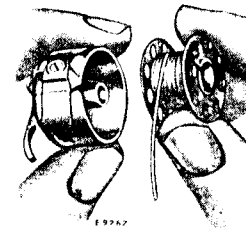
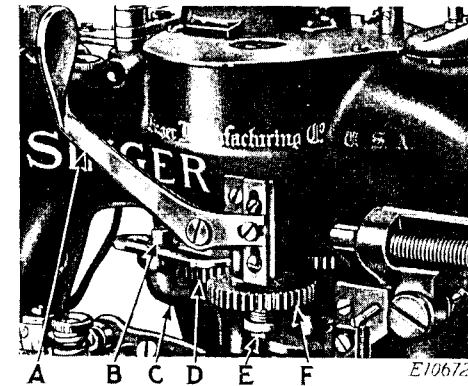
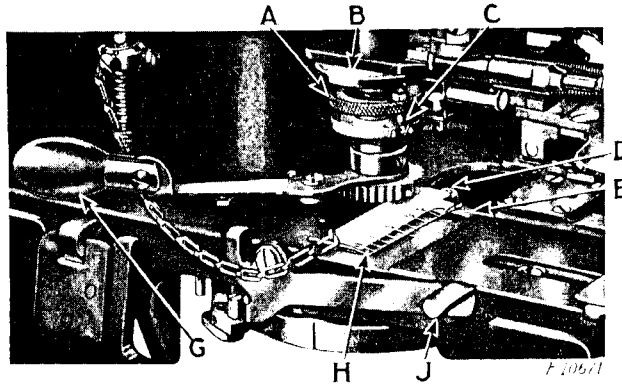

Fig. 12
Fig. 18. Mechanism for Disengaging Stitch Regulating Gear
Fig. 19. Adjustments for Regulating Length of Buttonhole Also Showing Hand Ratchet Lever (G) and Stop Lever (J)
Hold the bobbin between the thumb and forefinger of the right hand, the thread drawing on the bottom from the left toward the right (See Fig. 12).
With the left hand hold the bobbin case as shown in Fig. 12, the slot in the edge being near the top, and place the bobbin into it.
Press down the forward end of the stop lever (J, Fig. 19) and the machine will immediately stop with the needle at its highest point. Then with the right hand push the stitch gear disengaging lever (A, Fig. 18) backward to disengage the stitch regulating gear (F, Fig. 18) and while holding the lever (A) backward, operate the hand ratchet lever (G, Fig. 19) with the left hand until the work clamps are moved to the desired position.
To reengage the stitch regulating gear (F), release the disengaging lever (A, Fig. 18) and operate the machine slowly by means of the hand ratchet lever (G, Fig. 19) until the slot in the stitch regulating gear engages the driving pin in the shaft.
CAUTION: Under no circumstances should the machine be hand ratcheted unless the stitch regulating gear (F, Fig. 18) is disengaged. When changing the stitch regulating gear, be sure that the gear slides freely on the shaft and clamping nut sleeve (E, Fig. 12).
Remove the slide from the left side of the bed of the machine. The gauge (H, Fig. 19), furnished with the machine, is marked with numbers corresponding to the different lengths of buttonholes that can be made by the machine.
Loosen the nut (D, Fig. 19) and place the gauge (H) in the slideway as shown in Fig. 19, having the number on the gauge for the desired length of buttonhole opposite the line in the slideway. Then move the regulating lever (E, Fig. 19) until the sleeve under the nut (D, Fig. 19) rests against the downwardly projecting part of the gauge and tighten the nut (D).
After making the above adjustments, the knurled adjusting sleeve (A, Fig. 19) must be adjusted as follows:
For buttonholes $\frac{3}{8}$ to $\frac{1}{2}$ inch long, lift the knurled adjusting sleeve (A) and set the stud (C, Fig. 19) in the hole marked " $\frac{1}{2}$ " in the collar.
The number of stitches in the buttonhole is controlled by the stitch regulating gear (F, Fig. 18) at the right hand side of the machine. When it is desired to change the number of stitches in the buttonhole, it will only be necessary to change the stitch regulating gear. To remove this gear, loosen the screw (B, Fig. 18) and swing the bracket (C, Fig. 18) with the large gear (D, Fig. 18) out of mesh with the stitch regulating gear (F). Then remove the nut (E, Fig. 18) and remove the stitch regulating gear (F) from its shaft.
Having selected the gear desired, place it in position on its shaft and securely fasten it with the nut (E, Fig. 18) below it. Swing back the bracket (C, Fig. 18) as far as it will go so as to bring the large gear (D, Fig. 18) into mesh with the stitch regulating gear (F, Fig. 18), then securely tighten the screw (B, Fig. 18).